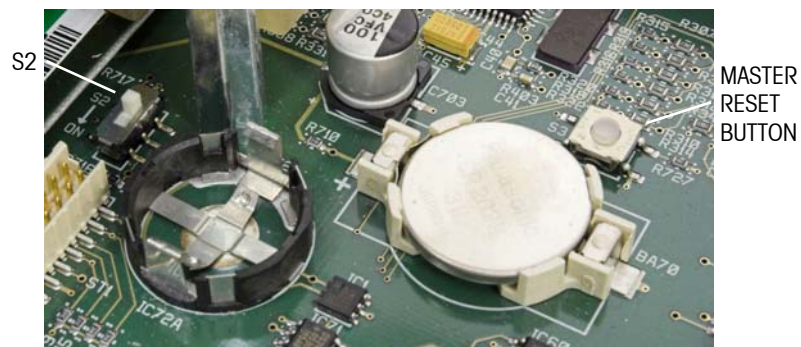

Figure 3-37: Main PCB, Master Reset Button and SW2 Locations Indicated
- Two types of master reset are possible, depending on the position of switch S2 (shown in its OFF position in Figure 3-37): A full reset **including** metrologically significant scale configuration data, and a reset that **preserves** scale data.
3. Press and hold the MASTER RESET button (Figure 3-37).